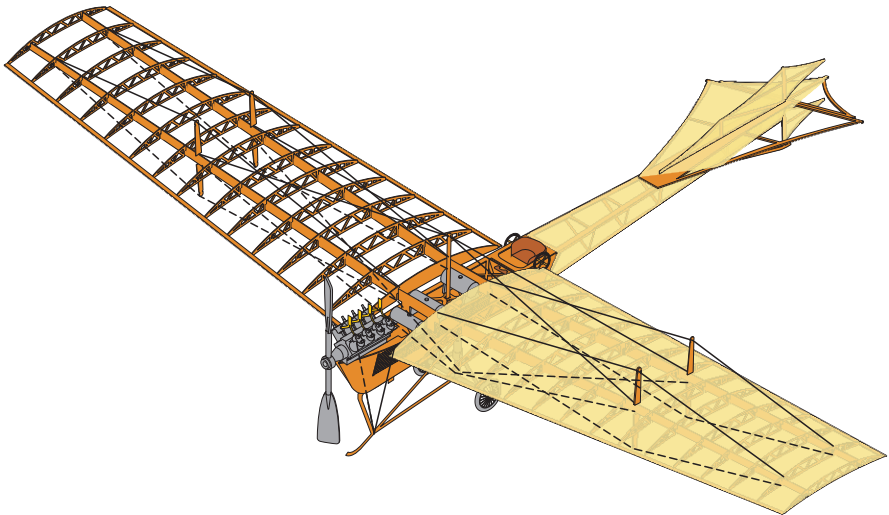

Figure 8
- A Add rigging if desired as shown in Figure 8 below. We have found black monofilament to give good results.